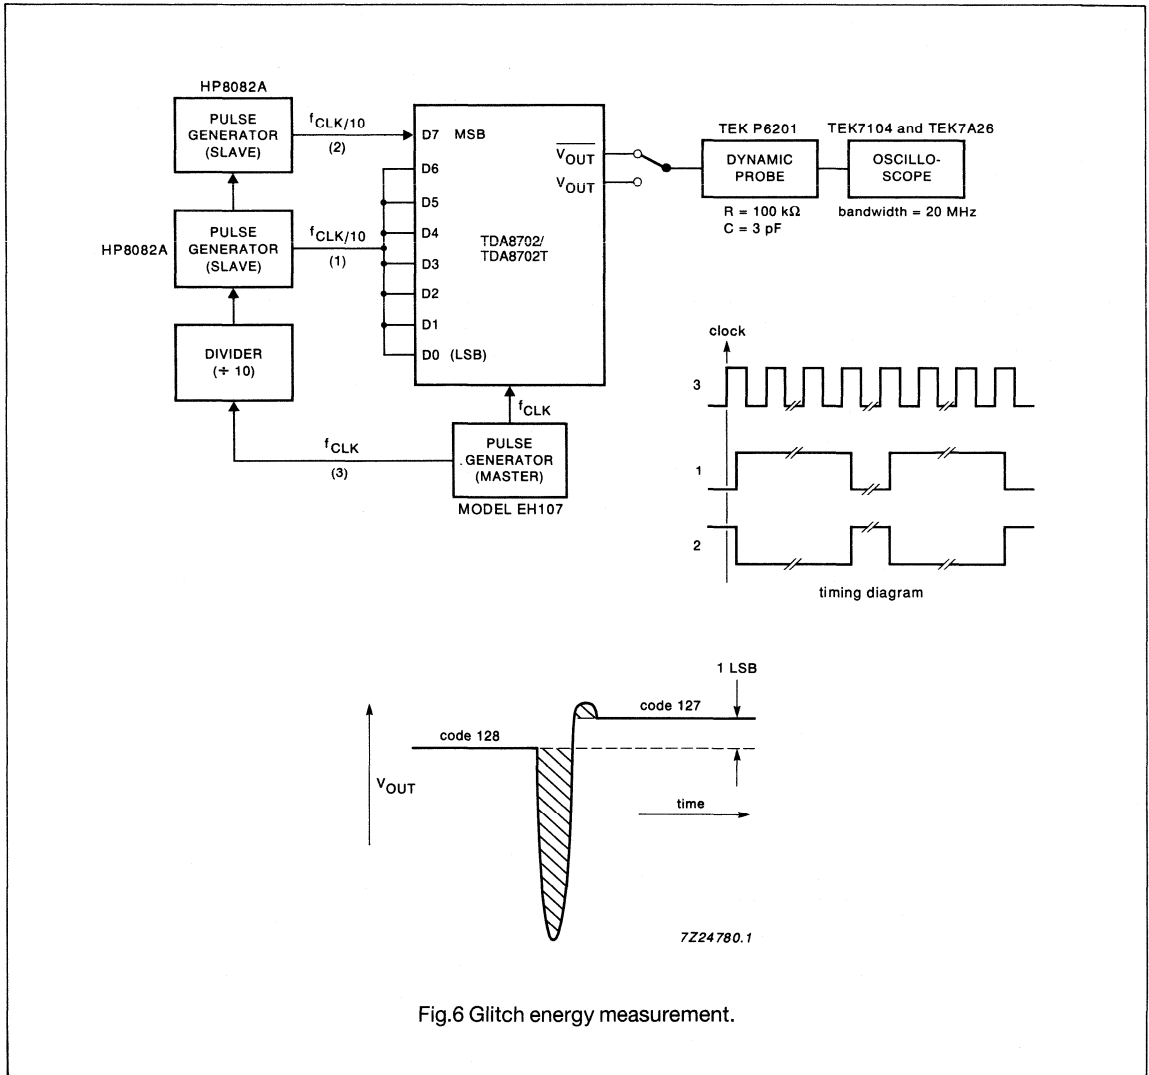

Fig.6 Glitch energy measurement.
Output transients (glitches; $f_{\text{CLK}} = 30 \text{ MHz}$; note 6; see Fig.6)
6. The definition of glitch energy and the measurement set-up are shown in Fig.6. The glitch energy is measured at the input transition between code 127 to 128 and on the falling-edge of the clock.
Note to Fig.6